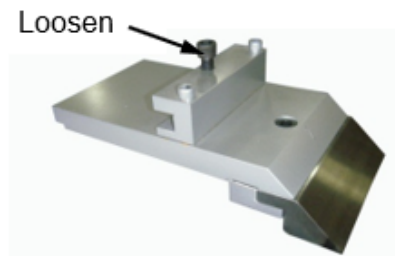

Figure 7-8
1. Remove one of the fingers by loosening the capscrew as indicated in (fig. 7-8) and removing it from the front guide. (Use a 10mm hex wrench)